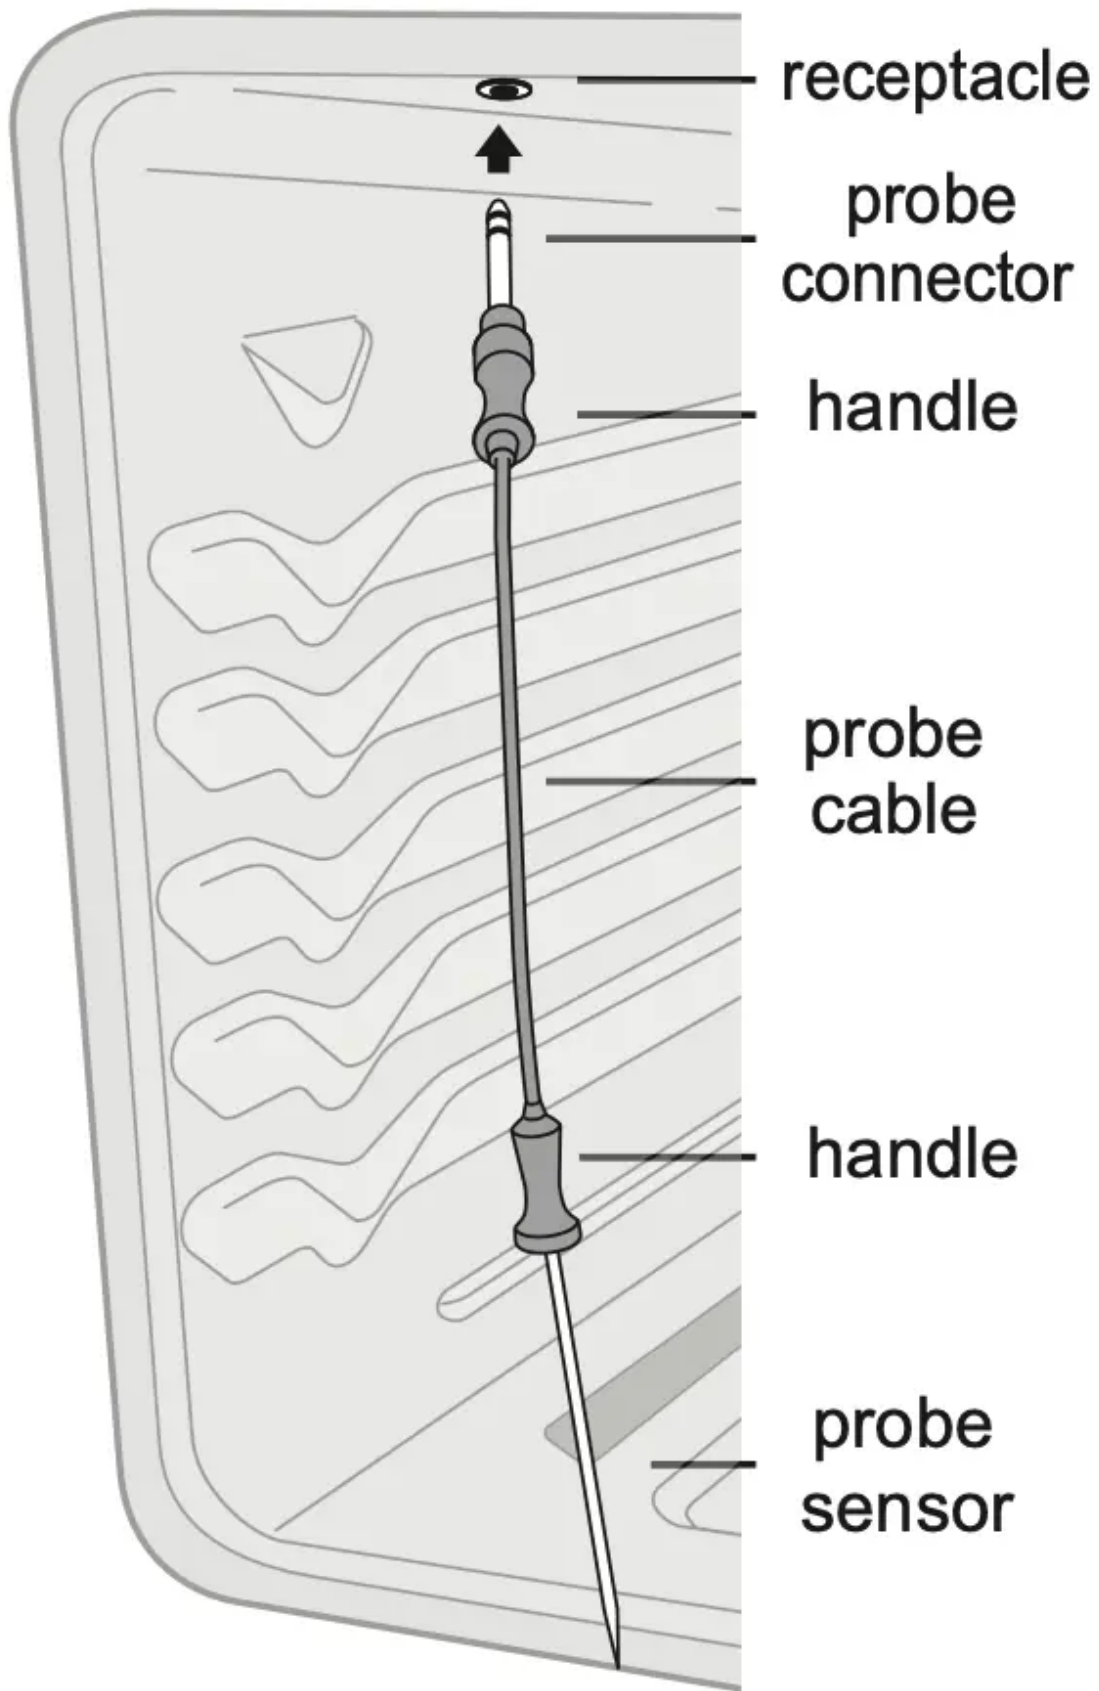

Figure 16: Using the probe
CAUTION: Do not use kitchen utensils to pull on the probe cable or handles. Always insert and remove the meat probe using the provided handles, as shown in Figure 16, and always use a pot holder to protect hands from possible burns.
2. Plug the connector end of the meat probe all the way into the probe receptacle while the oven is still cool. The receptacle is located on the upper left front oven cavity wall (See Figure 16). Close oven door.